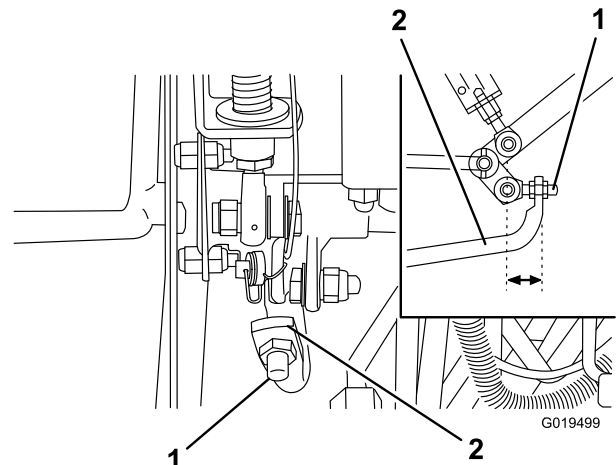

Figure 72
4. Adjust jam nuts on pump rod end to move pump control tube forward to eliminate forward creep or rearward to eliminate rearward creep (Figure 72).